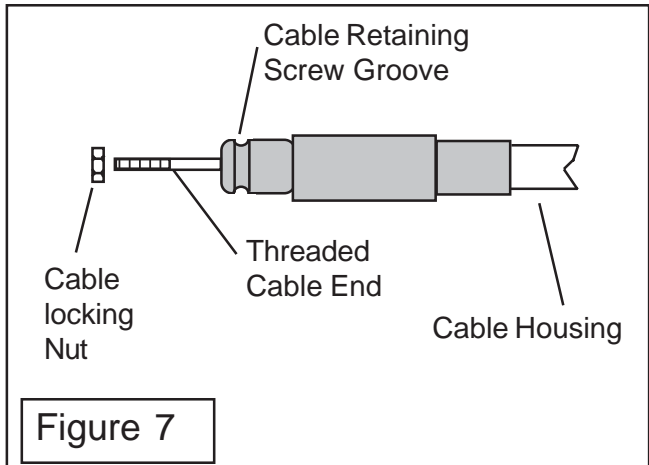
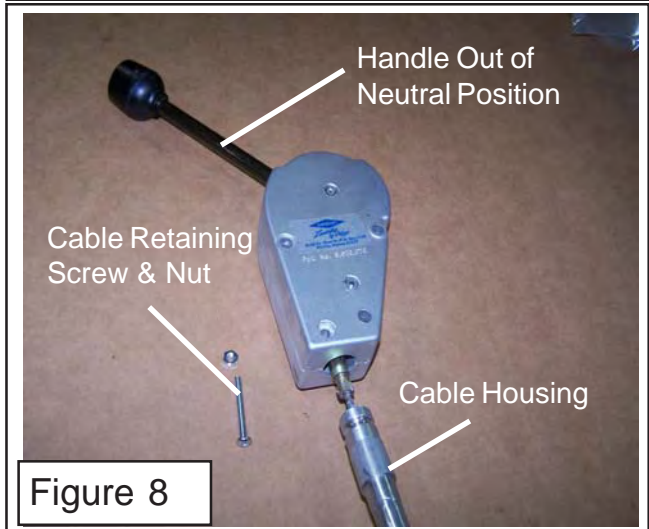
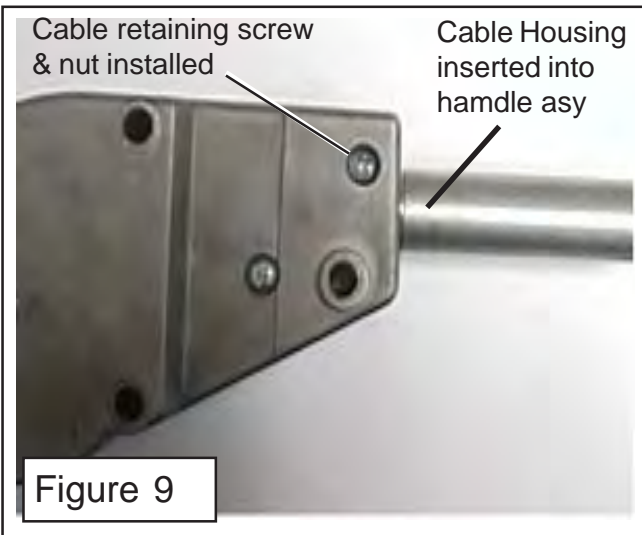

Figure 7
Figure 8
Figure 9
10. Connect Cable to Control Handle. Install the cable locking nut onto the threaded cable (See Figure 7), screw the nut on leaving enough threads to fully screw the control handle to the cable. Push the handle of the control assembly all the way to one side and the threaded shaft of the handle will be visible at the bottom (See Figure 8). After the handle is screwed onto the cable, tighten the cable locking nut against the handle control. Push the control handle to the straight position (See Figure 9), while pushing the cable into the handle assembly until the groove in the cable housing is aligned with the retaining screw hole of handle housing assembly insert the retaining screw and nut (See Figure 9)